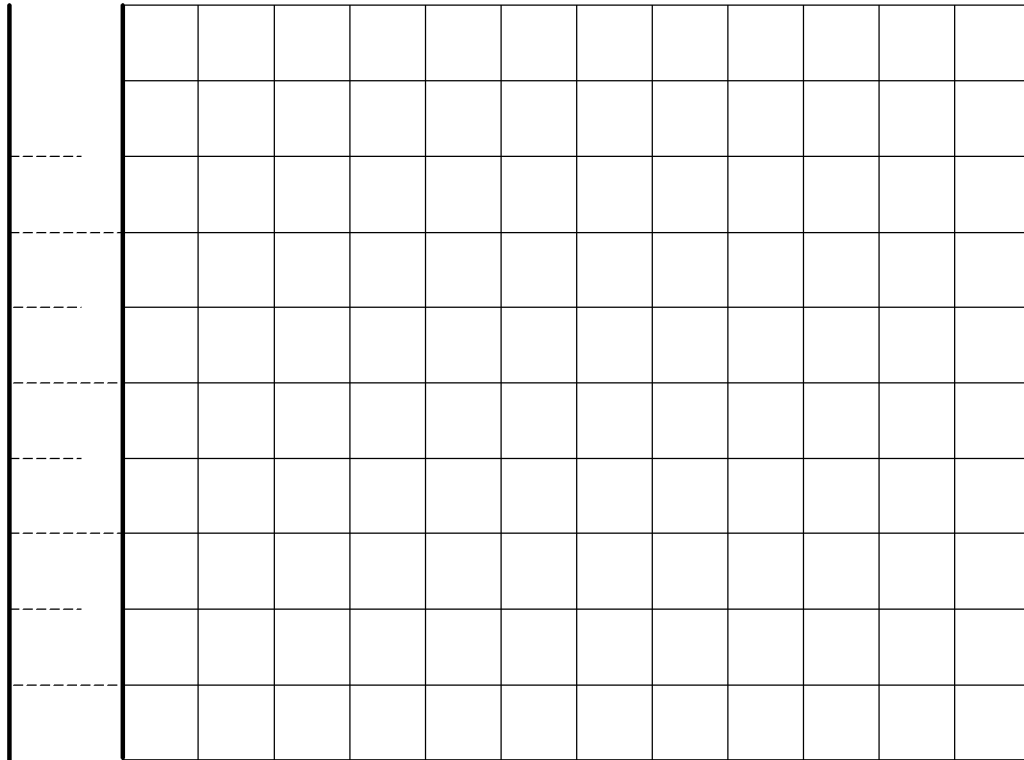

Fig. 3.4.2.3: Characteristics,  $I = f(U)$  and  $R = f(U)$  of the PTC resistor ('lamp')
- Draw the characteristics  $I = f(U)$  and  $R = f(U)$  in the chart (Fig. 3.4.2.3).